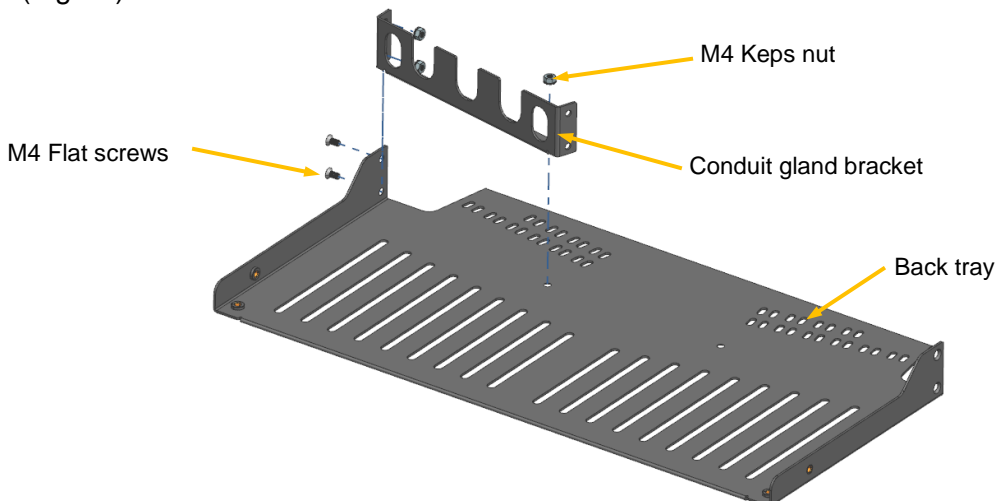

Fig. 3A
3.1.1 Assembling conduit gland bracket and mounting brackets (Fig.3A, 3B)
- Assemble the conduit gland bracket to the back tray at the shown location using M4 flat screws and M4 Keps nuts provided in the kit (Fig 3A). Based on the user requirement it can be mounted on left or right side of the tray.